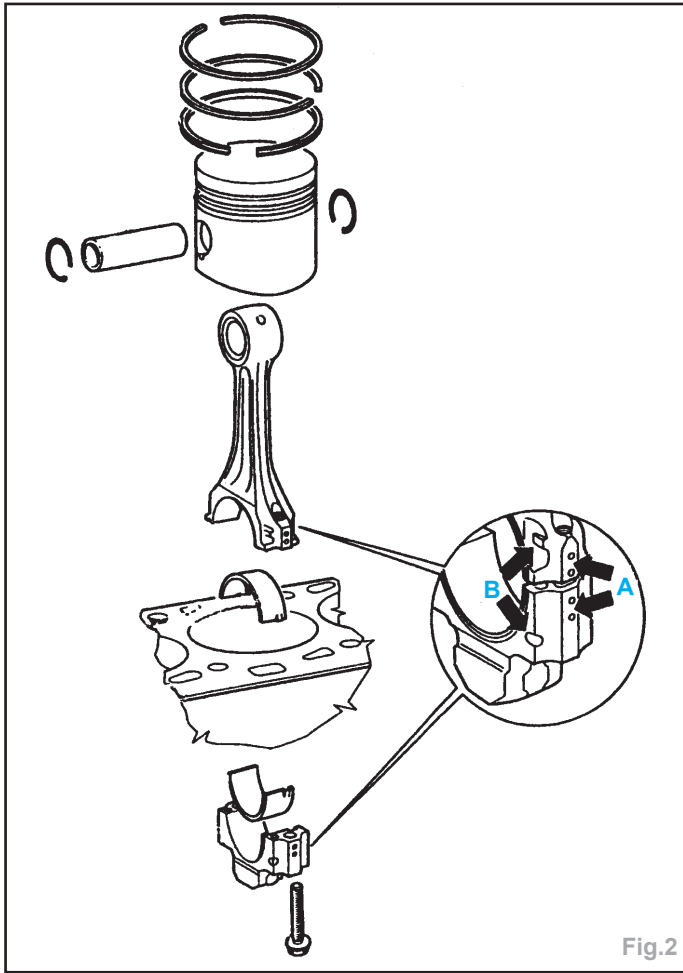

Fig.2
- Position de montage (Fig.2).